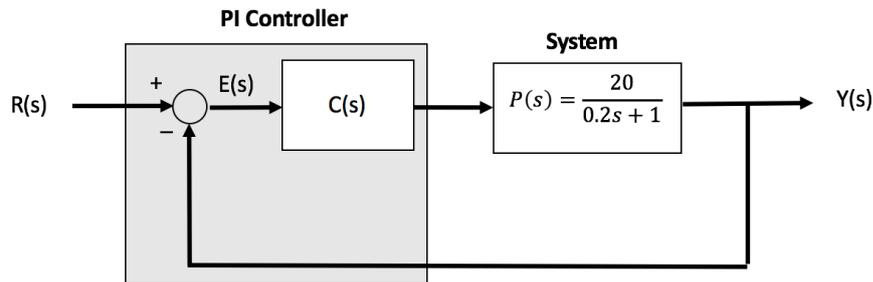

Figure Q8
8. Figure Q8 shows a simple proportional feedback system to control the motor speed $y(t)$ in response to the set-point $r(t)$ in the s -domain. The motor has a system transfer function given by:
- (ii) Modify the system block diagram in Figure Q8 to include an integral term in the controller and derive the close-loop transform function of the feedback system with this addition. [5]